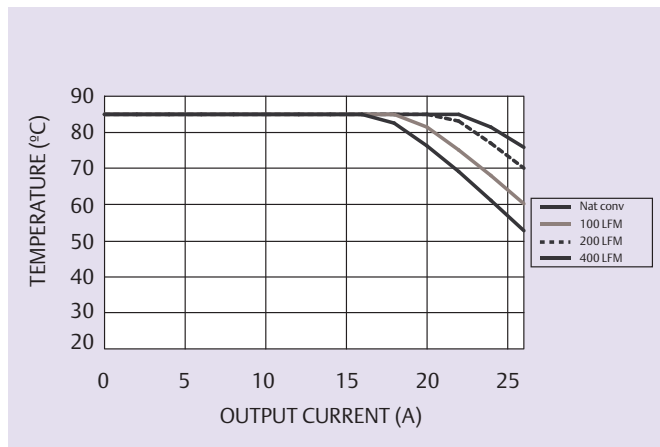

Figure 3 - Safe Operating Area
- The pk-pk output ripple voltage is measured with an external 10 µF ceramic capacitor. See Figure 3 Standard application schematic on the following page.